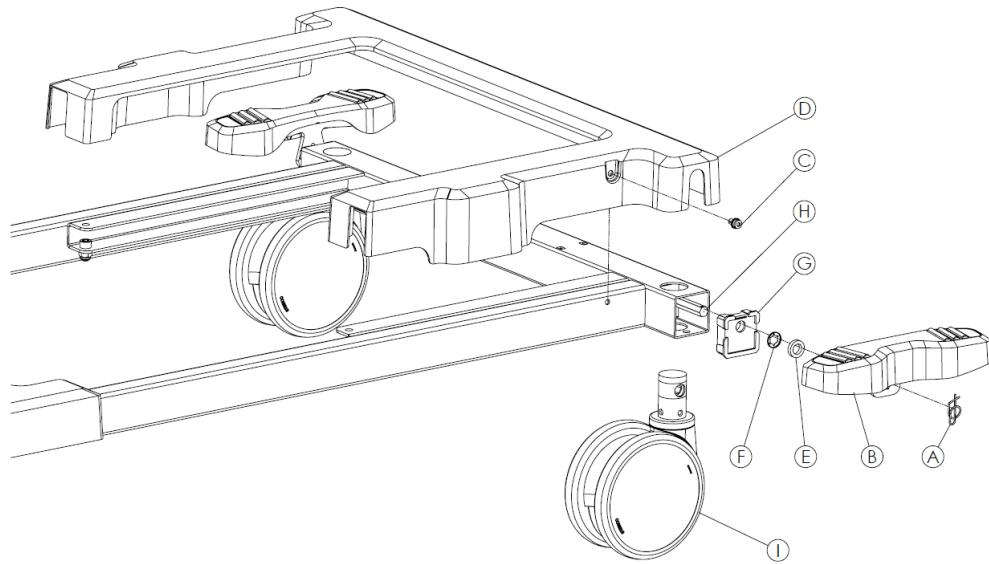

Figure 15 – Steer caster
4. Using a T25 Torx wrench, remove the cover screws (C). Remove the cover (D). Discard the cover screws (Figure 15).
5. Using needle nose pliers, remove the hex ring cotter pin (A) from the hex shaft. Discard the hex ring cotter pin.
6. Pull the brake pedal (B) off the hex shaft. Set aside.
7. Remove the plastic washer (E) that is on the hex shaft. Discard the plastic washer.
8. Using diagonal pliers, cut the starlock retainer (F) that is on the hex shaft. Discard the starlock retainer.
10. Using a large screwdriver, remove the plastic tube cap (G) on the tube. Discard the plastic tube cap.
11. Grasp the opposite brake/steer pedal and pull out about 3.5 in. (80 mm) to remove the steer caster (I). Discard the steer caster.